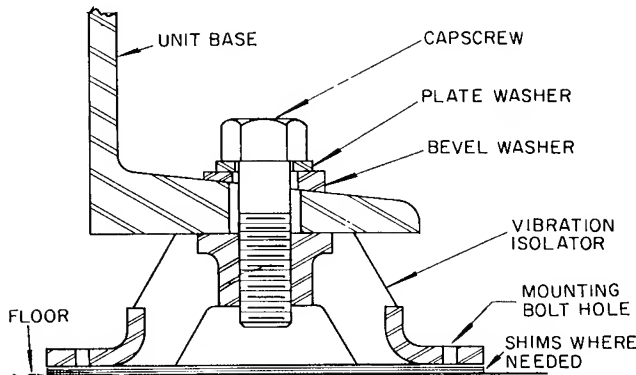

Fig. 9 - Typical Vibration Isolator Mounting
**Compressor on Steel Base and Vibration Isolators on Floor -** Install vibration isolators on one end of unit at a time. See Fig. 9 for typical vibration isolator mounting.
Position compressor and motor on frame and check height of vibration isolators. Shim between vibration isolators and floor to level compressor base. Secure vibration isolators to floor. If beveled washer (Fig. 9) is omitted, end of capscrow may strike the floor and cause vibration isolator to rupture when it is secured to floor.